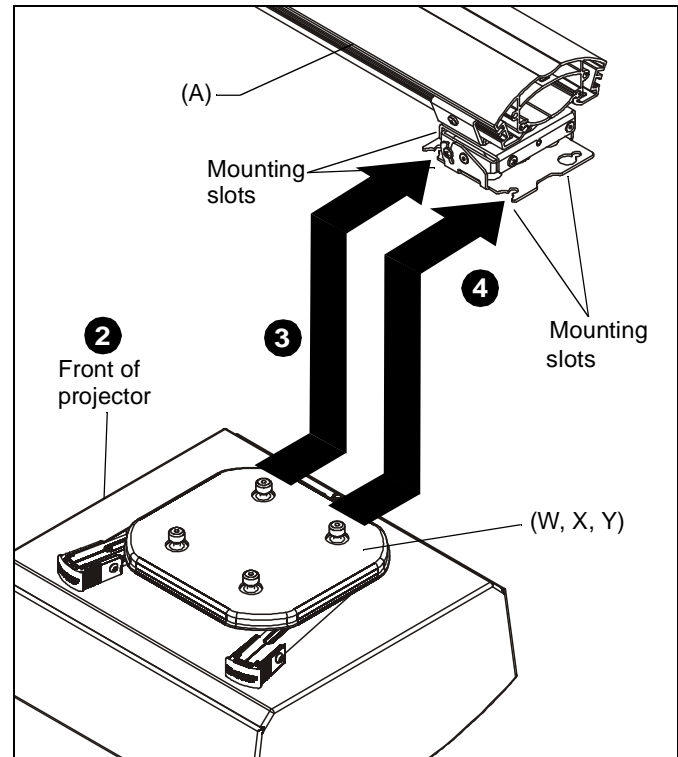

Figure 11
2. Orient projector with attached SSBU bracket so that front of projector faces wall. (See Figure 11)
3. Lift projector so that screws with thumb nuts (V) in SSBU are aligned with mounting slots in projector arm base. (See Figure 11)
4. Slide projector with SSBU bracket onto mounting slots in projector arm base until screws are seated against the back of mounting slots. (See Figure 11)